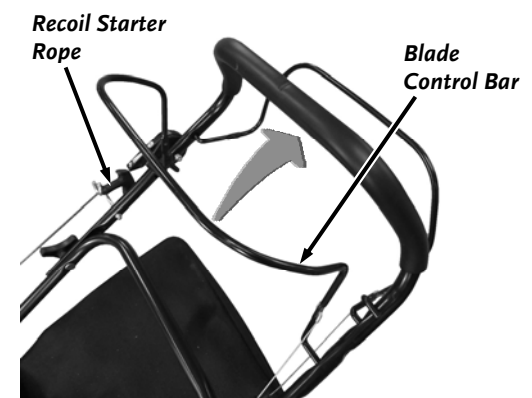

Figure 12
2. Stand behind the Mower. Hold the Blade Control Bar against the Handle in the “Operating Position” (**Figure 12**).